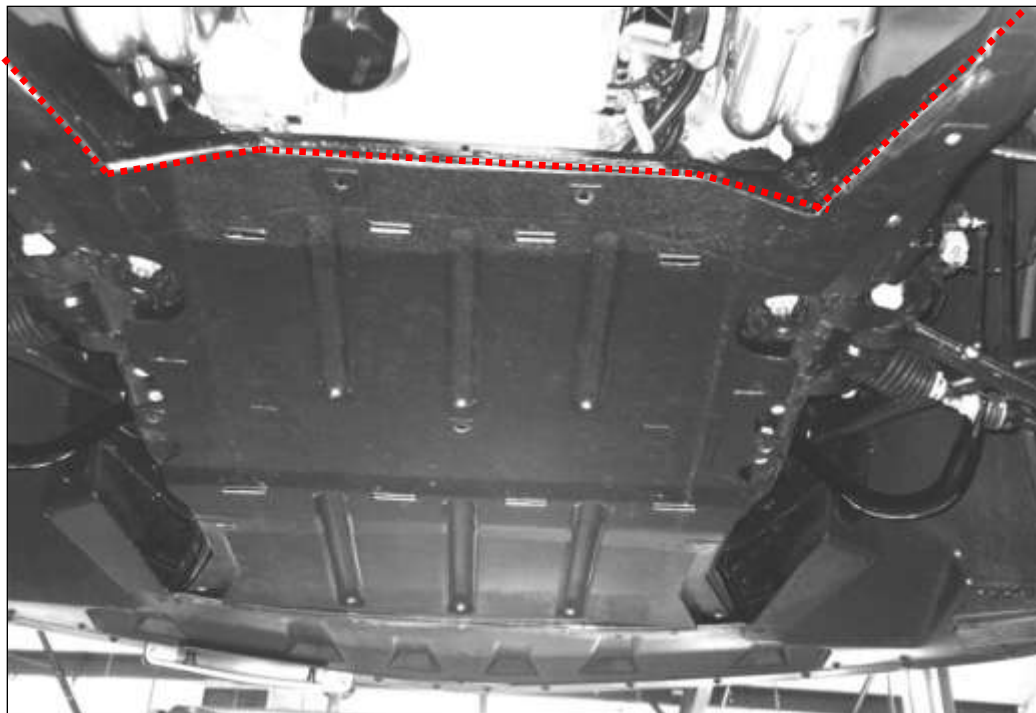

Figure 4: Trim away splash guard along frame as shown by dotted lines above
23. Hold up the splash guard and trim away the areas where it contacts the headers and cut to match the shape of the frame. Install the cut splash guard. See Figure 4 below.